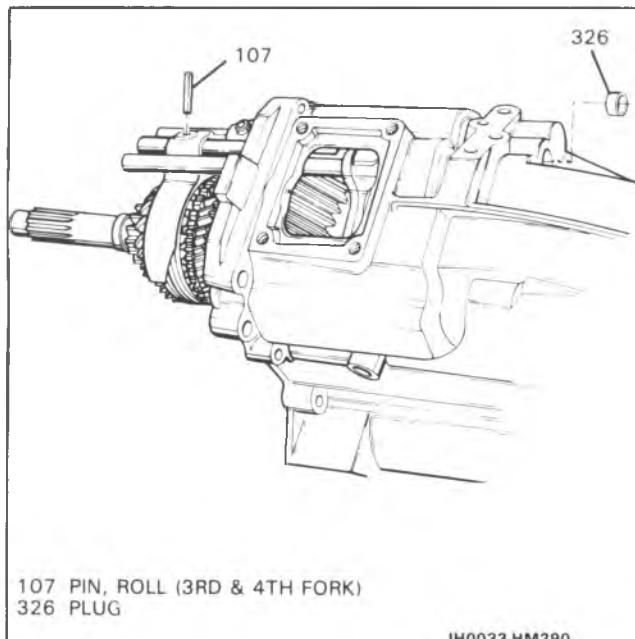
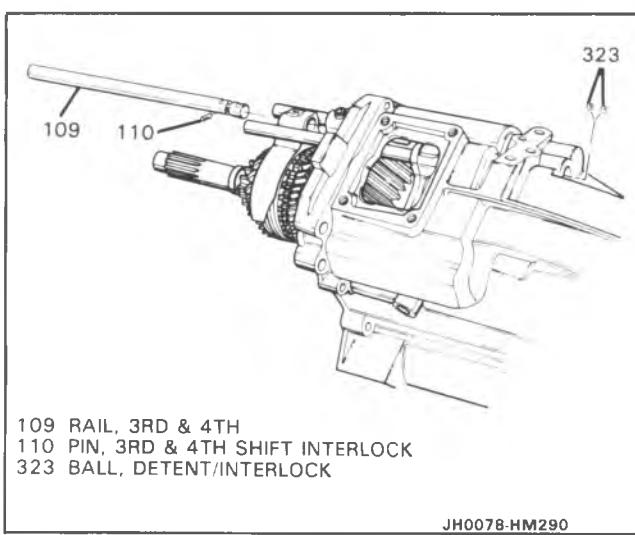

Figure 14 Removing 3-4 Rail Plug and Roll Pin
Figure 15 Removing 3-4 Rail and Interlock Balls
18. Shift Shaft (116), shift shaft socket assembly (123) and finger (121).
19. 3rd and 4th shift fork roll pin (107) (Figure 14).
20. Plug (326).
21. 3rd and 4th rail (109) (Figure 15).